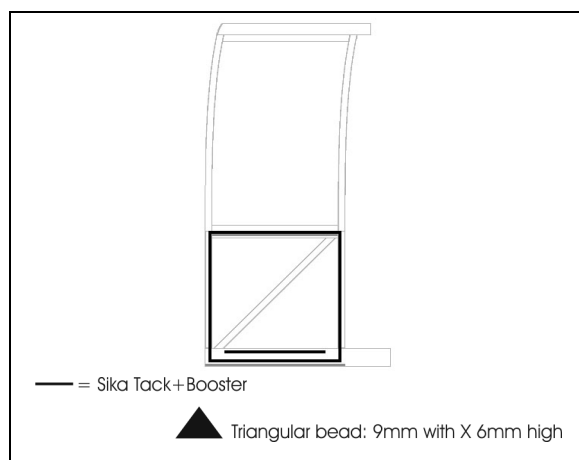
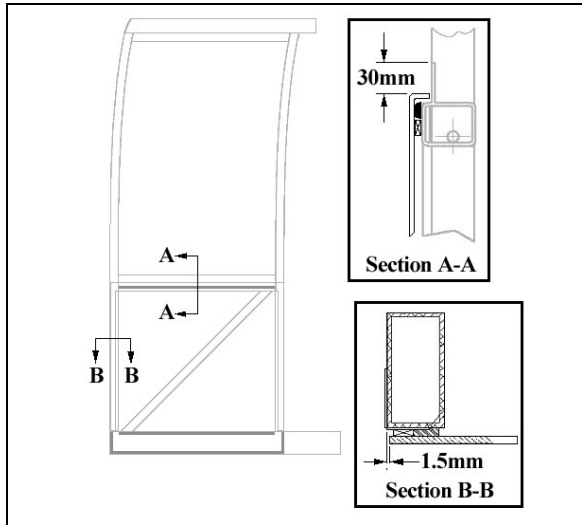

FIGURE 43 : SIDE PANEL INSTALLATION – SIKA TACK+BOOSTER APPLICATION
FIGURE 44 : SIDE PANEL INSTALLATION
4. Apply Sika Tack+Booster (triangular bead: 9mm width X 6mm high) as shown in Figure 43 and glue panel in place as shown in FIGURE 44;